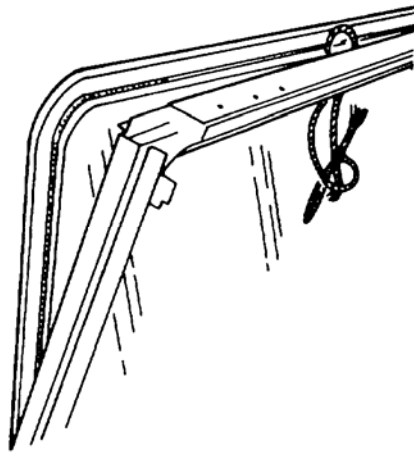

Figure 10 Installation of the Windscreen Glass
- g. Position the windscreen glass and rubber in the frame (Figure 10), ensuring that the etched motif on the glass is towards the bottom of the frame.